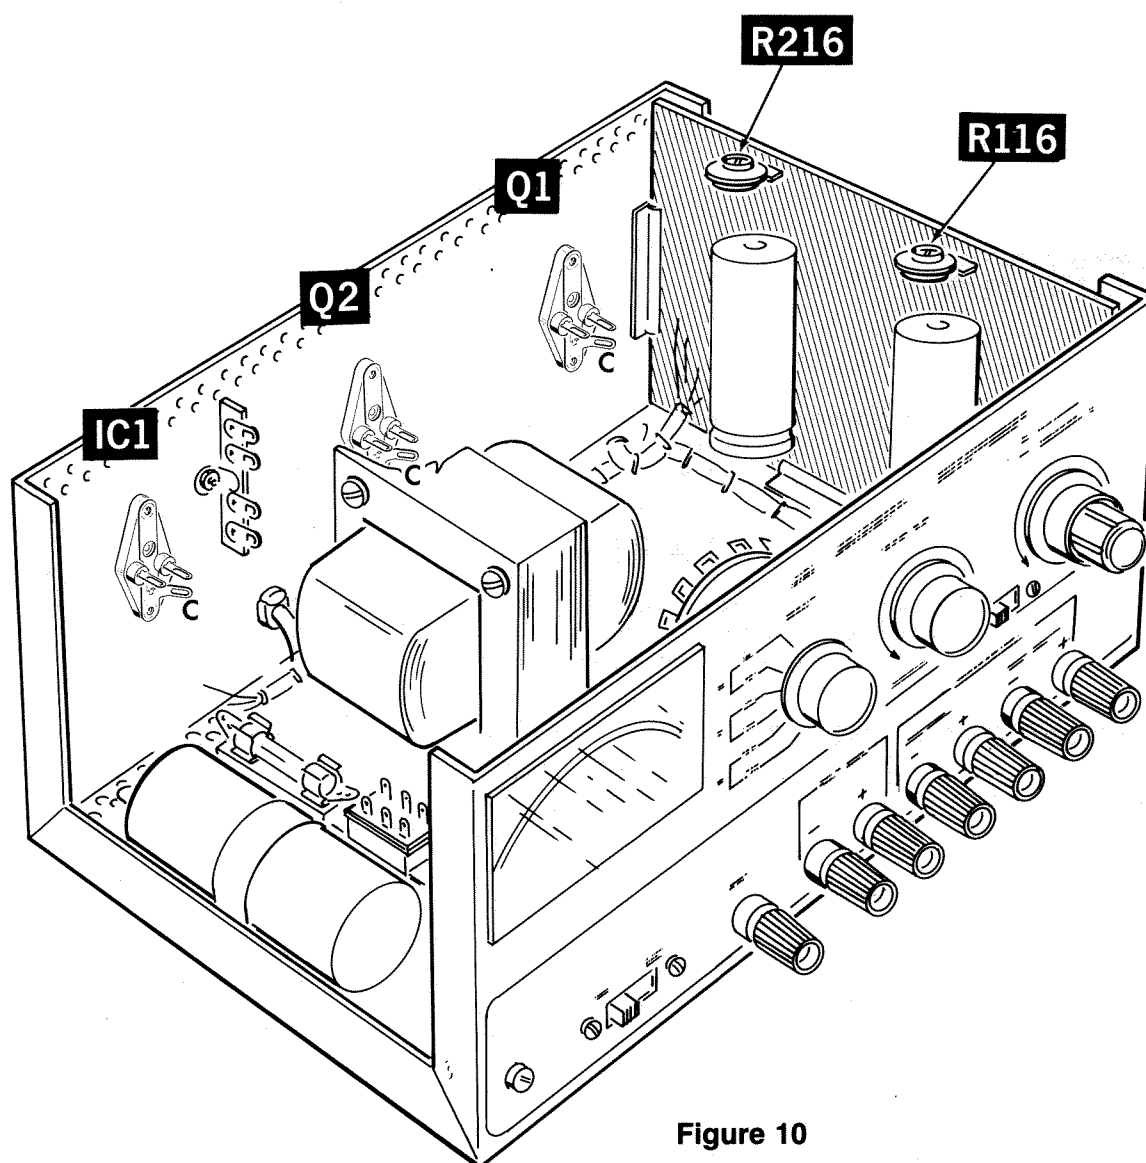

Figure 10
- () Refer to Figure 10 and adjust circuit board control R216 until the pointer is directly over the "20" on the upper meter scale.